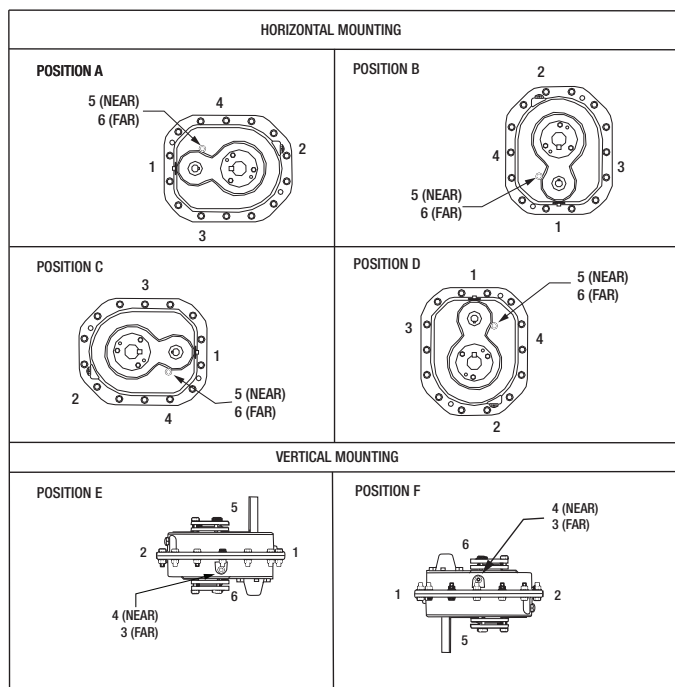

Figure 1 - Mounting Positions
2. Determine the running positions of the reducer (see Figure 1). Note that the reducer is supplied with six plugs—four around the sides for horizontal installations and one on each face for vertical installations. These plugs must be arranged relative to the running positions as follows:
**Vertical Installations**—Install the filter/ventilation plug in the hole provided in the upper face of the reducer housing as installed. If space is restricted on the upper face, install the vent in the highest hole on the side of the reducer per Figure 1. Install a plug in the hole in the bottom face of the reducer. Do not use this hole for the magnetic drain plug. Of the remaining holes on the sides of the reducer, use the plug in the upper housing half for the minimum oil level plug.
\* Below 15 RPM output speed, oil level must be adjusted to reach the highest oil level plug. If reducer position is to vary from those shown in Figure 1, either more or less oil may be required. Consult Product Support in Simpsonville, SC.
The running position of the reducer in a horizontal application is not limited to the four positions shown in Figure 1. However, if running position is over 20° in position B and D or over 5° in position A and C—either way from sketches—the oil level plug cannot be used safely to check the oil level unless during the checking, the torque arm is disconnected and the reducer is swung to within 5° for position A and C or 20° for position B and D of the positions shown in Figure 1. Because of the many possible positions of the reducer, it may be necessary or desirable to make special adaptations using the lubrication filling holes furnished along with other standard pipe fittings, stand pipes and oil level gauges as required.